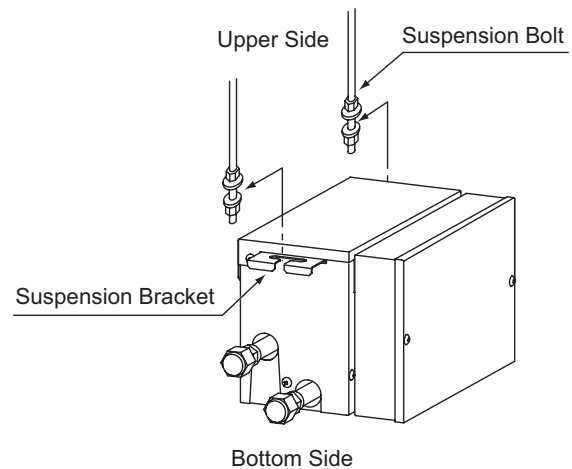

Figure 4.5 Hanging Method
(2) Hanging the Switch Box
- (b) Insert the suspension bolt into the groove part of the suspension bracket as shown in Figure 4.5. Ensure that the washers are correctly affixed to the suspension bracket.